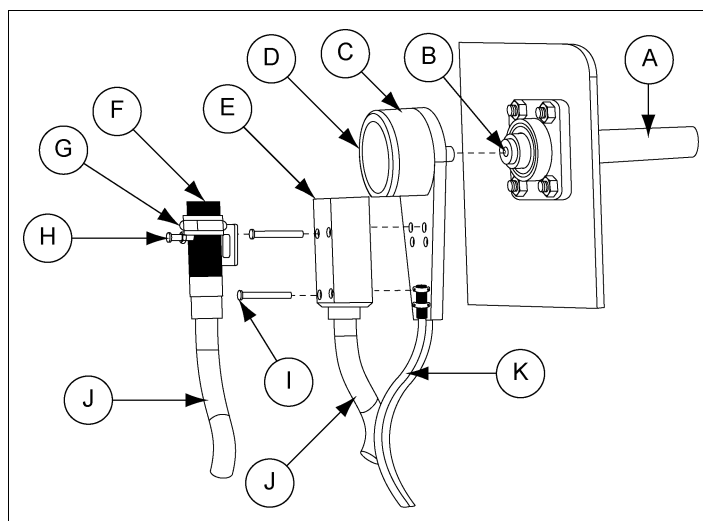

Figure 5F
2. Thread the Whirligig onto the machine shaft using 5/8" open ended wrench and suitable thread locking adhesive (loctite or similar). (See Figure 5F.)
3. Install the sensor to the Whirligig base plate. Two (2) sets of pre-drilled holes are provided for M800 sensor. Fit the sensor to leave an approximate 2 mm gap between sensor face and cover. A universal bracket (WGB18/30) is supplied for fitting 18 mm or 30 mm sensors.